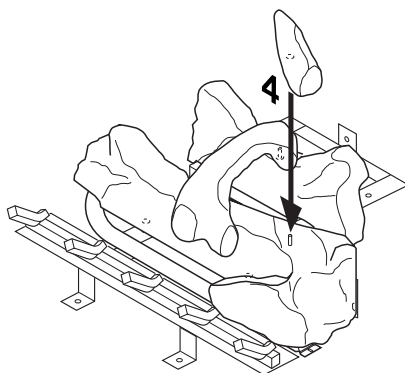

Figure 43 - Installing Log No. 4
4. Place log #4 (right log) onto pin on right side of front log as shown in Figure 43.